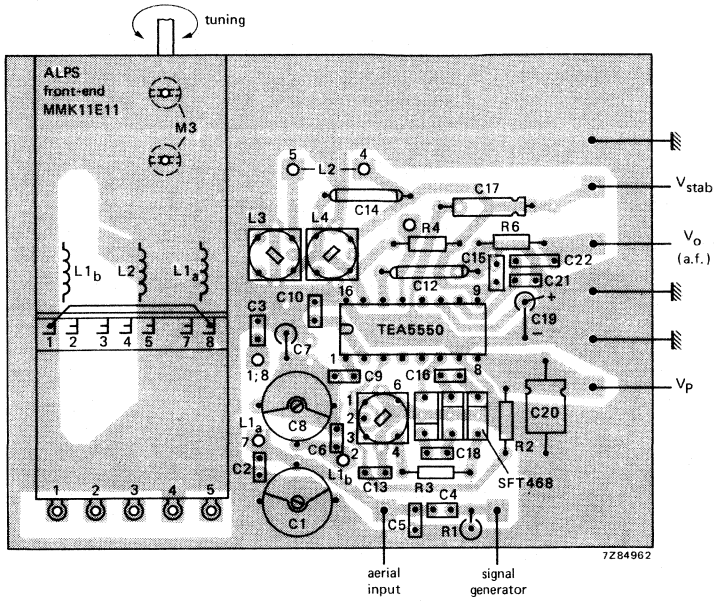

Fig. 8 Printed-circuit board component side, showing component layout. For circuit diagram see Fig. 7.
Fig. 7 Typical application circuit diagram for a double-tuned AM channel in car radio receivers using the TEA5550; S is AM/FM switch; for printed-circuit board see Figs 8 and 9.
- Coil data: L1_a, L1_b, L2 = tuning coils, ALPS unit MMK IIE11 (for coil connections see Fig. 8)